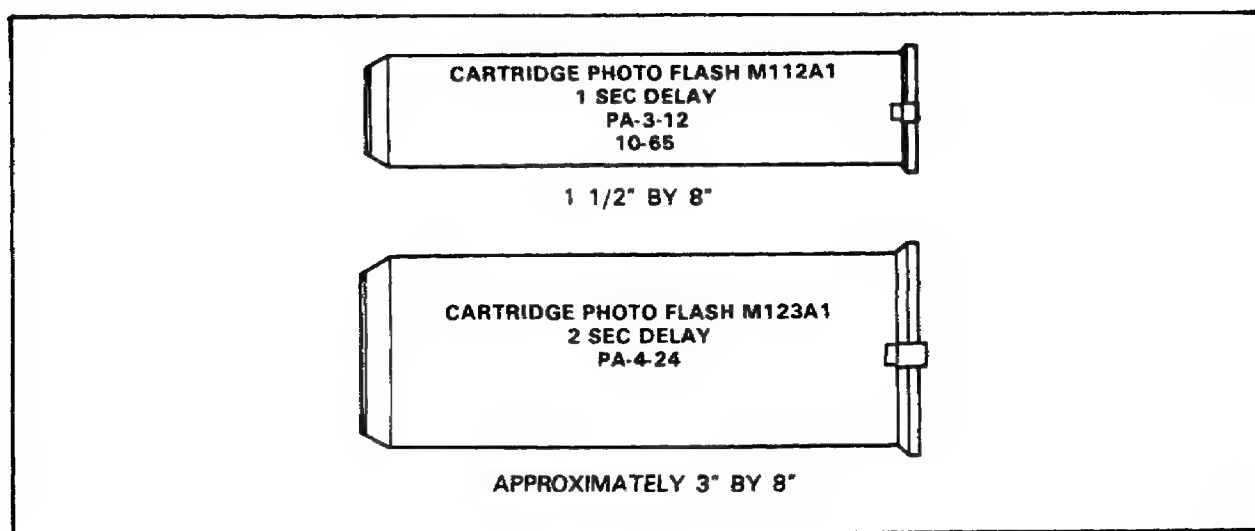

Figure 99. Photoflash Cartridges.
**Photoflash Cartridges.** Photoflash cartridges (Figure 99) are used for night aerial photography. They are fired by an electric primer from an ejector mounted on an aircraft. A shorting clip prevents accidental firing before the photoflash cartridges are loaded in the aircraft ejector. When fired, the primer ignites a delay fuze and a propelling charge. The propelling charge expels the illuminating charge, which is ignited by the delay fuze one to six seconds after firing. When the illuminating charge is ignited, it makes a brilliant flash of up to 120,000,000 candlepower. Photoflash cartridges are unpainted aluminum with black markings.